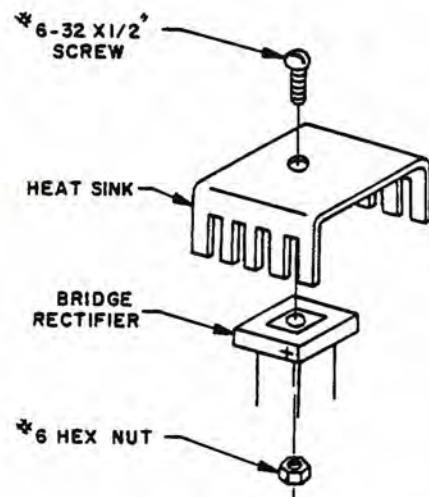

Figure 5-46b Bridge Rectifier Orientation
2. Using the illustration in figure 5-46b as a guide, attach the heat sink to the bridge rectifier with a #6 x 32 x 1/2" screw and a #6 hex nut. The heat sink may have two holes. Insert the screw through the hole furthest from the edge of the heat sink which will result in the heat sink resting within the designated square on the board.